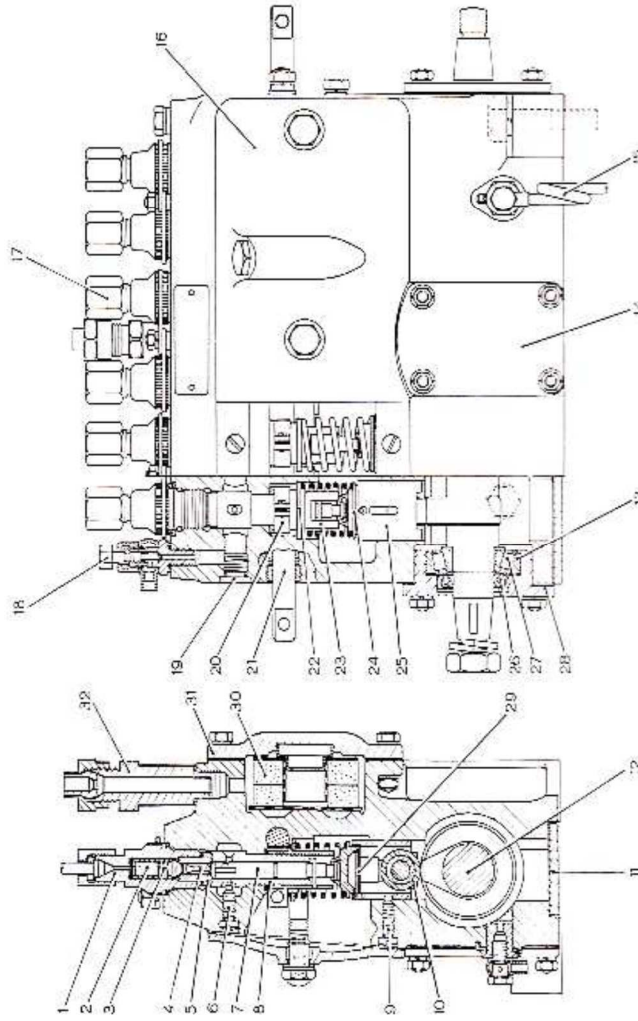

FIG. 1. ANNOTATED SECTION VIEW OF "NS" TYPE PUMP.
Except where otherwise stated, all reference numbers quoted in this chapter refer to Fig. 1 which is an annotated sectional view of the 'NN' type fuel pump.
Each element is comprised of a plunger and a plunger barrel lapped together to form a mated assembly. The parts are not interchangeable and damage to either will necessitate the renewal of the complete element. The upper portion of the plunger element (8) Fig. 1 is in the form of a shoulder which seats against a corresponding shoulder in the pump housing. It is prevented from turning by the locking screw (6) which passes through the pump housing and engages in the groove machined on the barrel surface. The upper portion of the barrel, located within the common fuel chamber, is provided with two oppositely drilled holes, permitting the fuel to flow from the fuel chamber into the element. The countersunk hole is known as the inlet port and the other the spill port. The upper surface of the barrel has been ground flat and square to the axis to produce an oil-tight jointing face against the base of the delivery valve seating (5).
(Annotations refer to Fig. 1, page 4.)